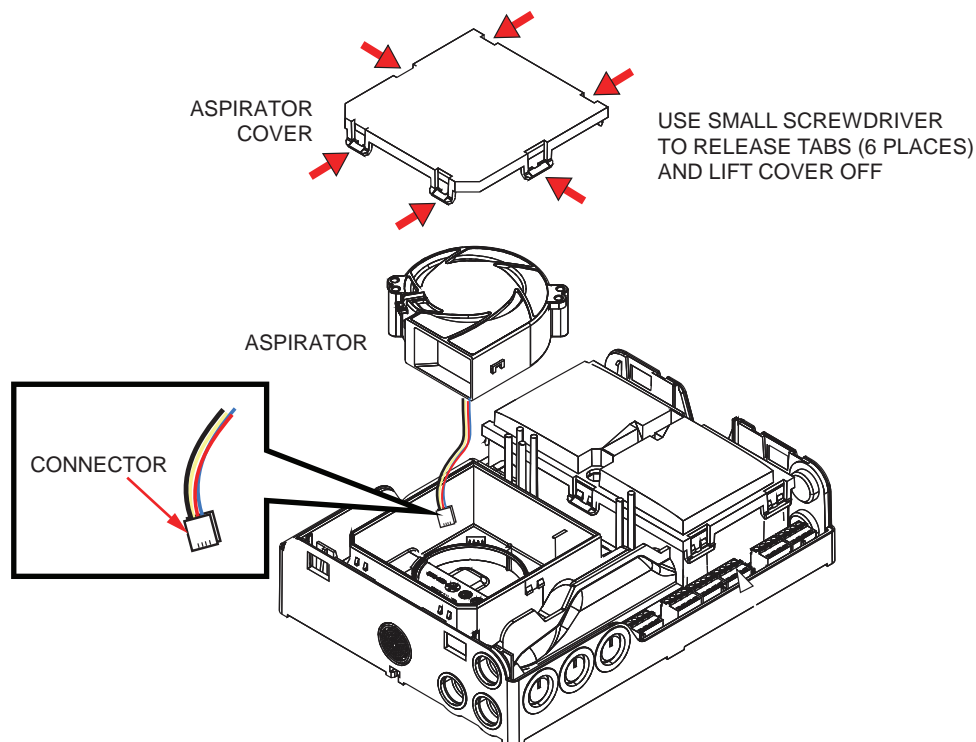

Figure 20-2: Aspirator Replacement
2. Using a small screwdriver, release six locking tabs, and remove Aspirator Cover (see Figure 20-2).